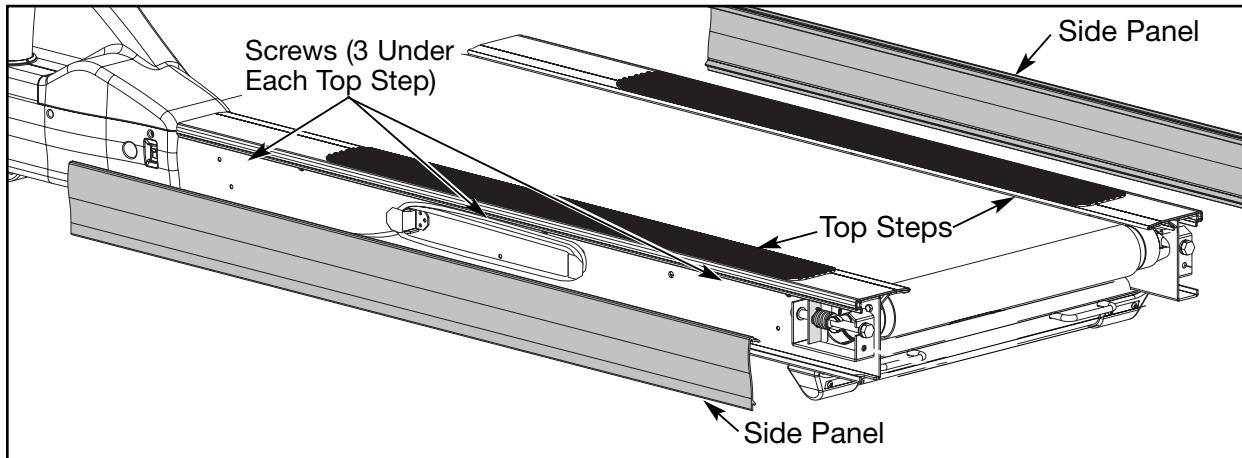

Figure 5
A. Pull each side panel out and off the treadmill. See Figure 5.
A. Using a Phillips head screwdriver, remove the three screws that hold one of the top steps in place. Repeat this step for the other side. See Figure 5.
B. Grasp each top step and slide it out and off the treadmill. See Figure 5.
A. Place each side panel into position on the bottom edge and use your hand to push all along the top edge of the side panel to snap it in place. See Figure 5.